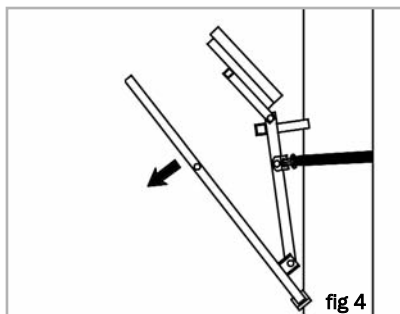

fig 4
Step 4: After **TREE STRAP** has been pulled tight, pull down on **FRONT OF PLATFORM** until it is parallel with ground. (fig 4, 5, 6).